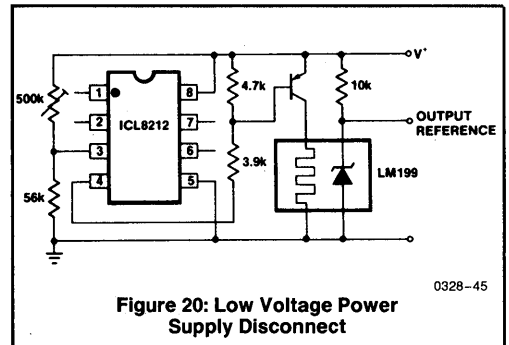

Figure 20: Low Voltage Power Supply Disconnect
j) Low Voltage Power Disconnect (Figure 20)